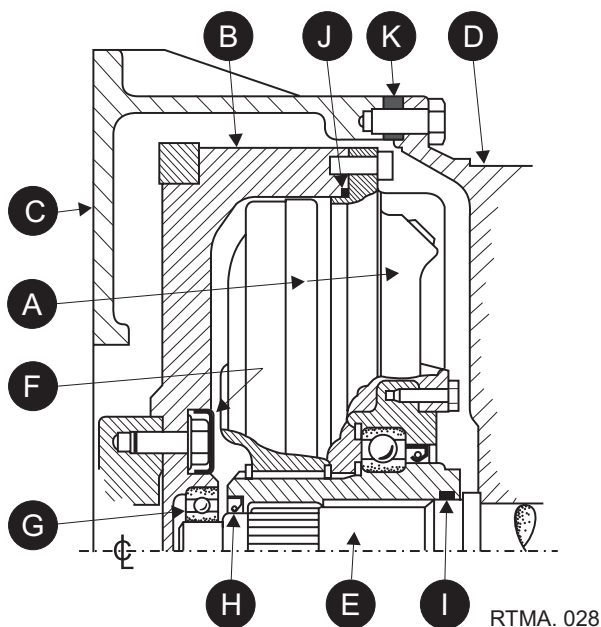

FIGURE 2 - FLUID DRIVE COUPLING AND FLYWHEEL
- 1 Before fitting coupling, renew oil seal and 'O' rings (Items 8, 9 and 10, Figure 2).
- 2 Some engine installations have an adaptor ring between the flywheel housing and the gearbox. (See Fig. 2, Item 11)